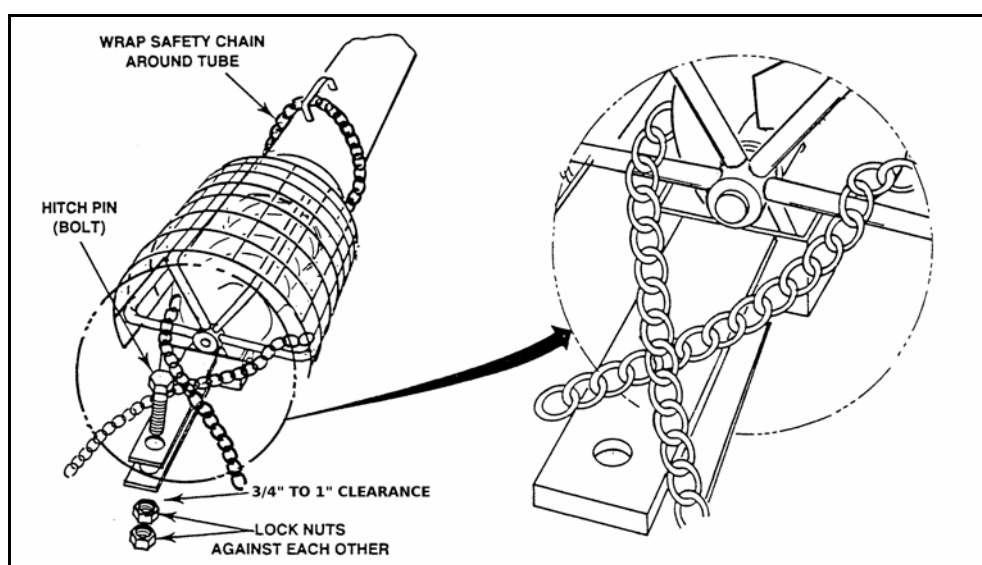

Figure 4.1
3. Place and secure hitch pin and safety chain. The safety chain should be threaded through handle on the lower tube and wrapped around auger tube before attaching to the towing vehicle (Figure 4.1).
Important: Use a type of hitch pin (see Figure 4.1) that will not allow auger to separate from towing vehicle.